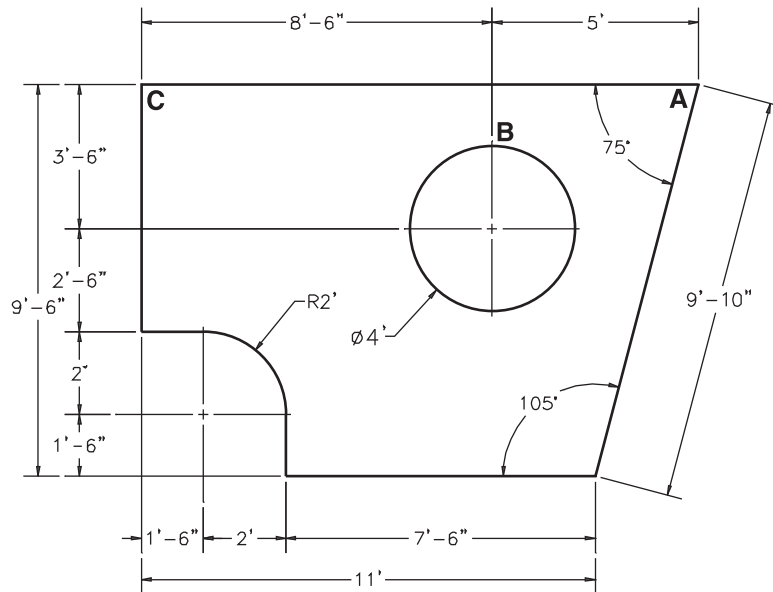

Fig. 28-1
3. On layer **Objects**, create the top view drawing of the redwood deck shown in Fig. 28-1. Do not add dimensions at this time.
1. Begin by dimensioning the table and rounded corner. Use the **Diameter** button for the table and the **Radius** button for the filleted corner. Place the dimensions as shown in Fig. 28-1 (page 374).
Your dimensioned drawing of the redwood deck should now look similar to the one in Fig. 28-1 (page 374).